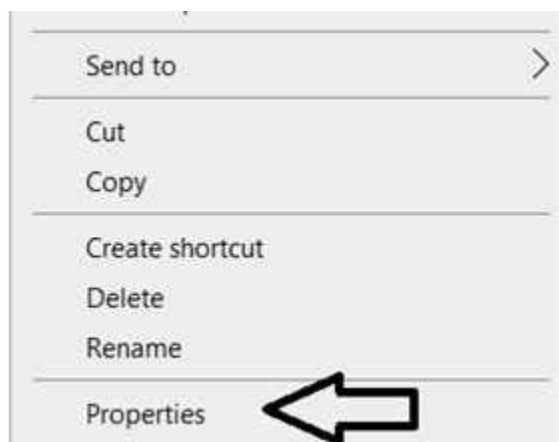

Figure V-28: Dropdown window to select Properties
3. Next, on the desktop, right click on the FastPrep-24 5G Program icon (Figure V-27) and select “Properties” from the dropdown window (Figure V-28).